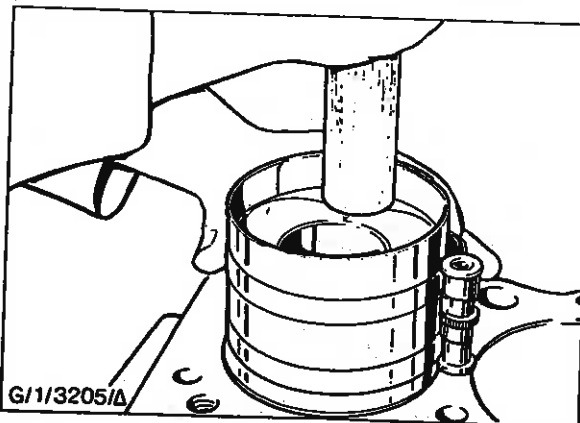

Fig. 61 - Fitting Piston to Cylinder Block
50. Use a soft wooden drift and tap the assembly into the bore, taking care that the lower end of the connecting rod does not foul the crankshaft - see Fig. 61.